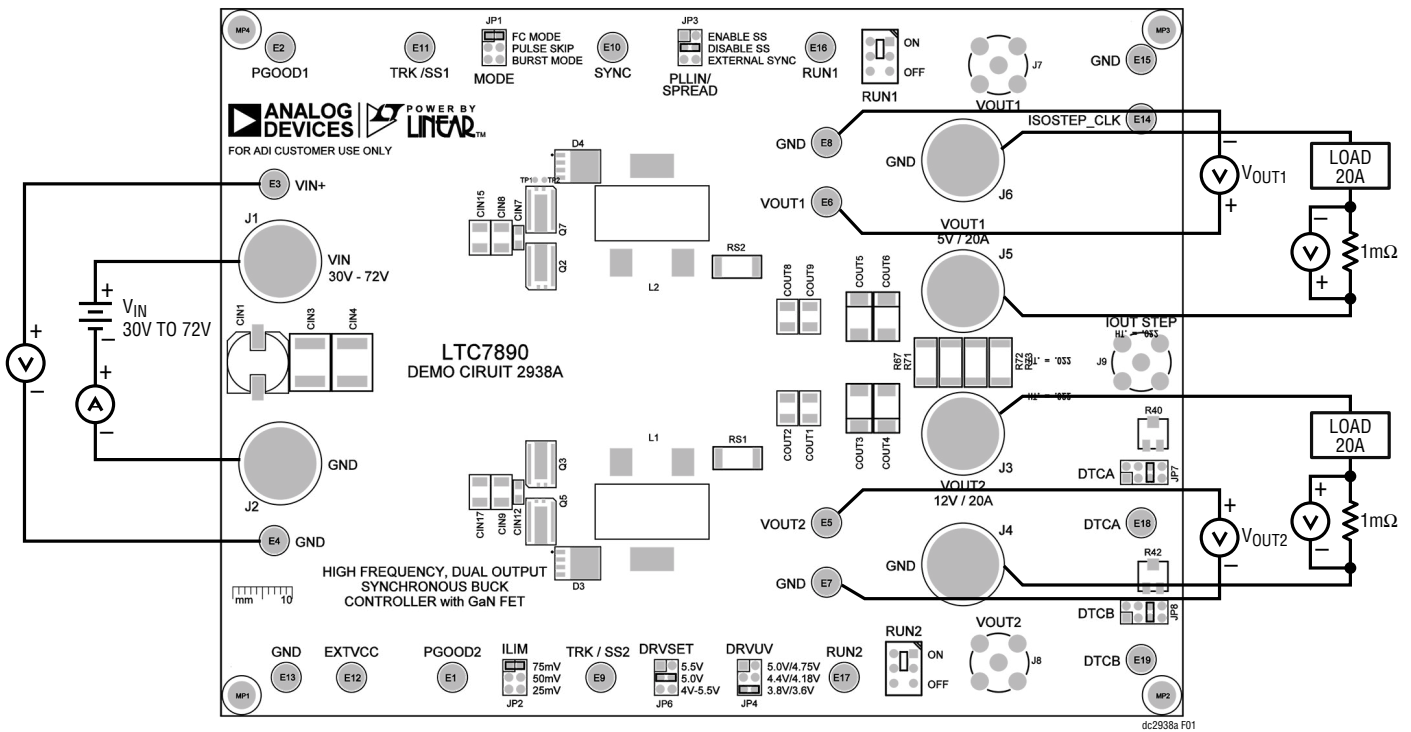

Figure 1. Test Setup Drawing for DC2938A
Demonstration circuit 2938A is easy to set up to evaluate the performance of the LTC7890. Refer to Figure 1 for the proper measurement equipment setup and follow the procedure below.
2. Connect the output loads between  $V_{OUT1}$  and GND,  $V_{OUT2}$  and GND, respectively. (initial load: no load). Refer to Figure 1.